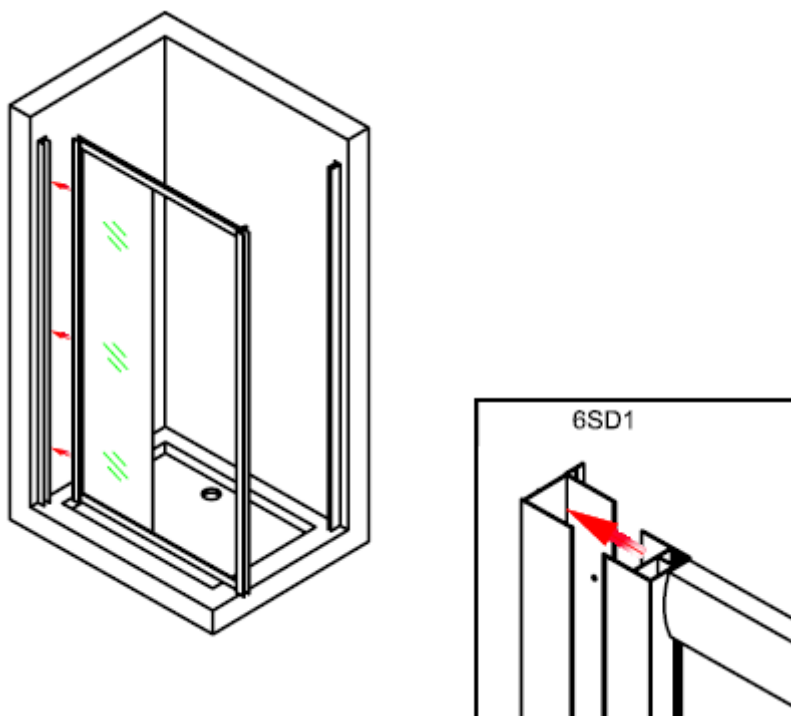

Figure 6
6. Move the whole set front panel to the wall profile(6SD1),as showed in figure 6.